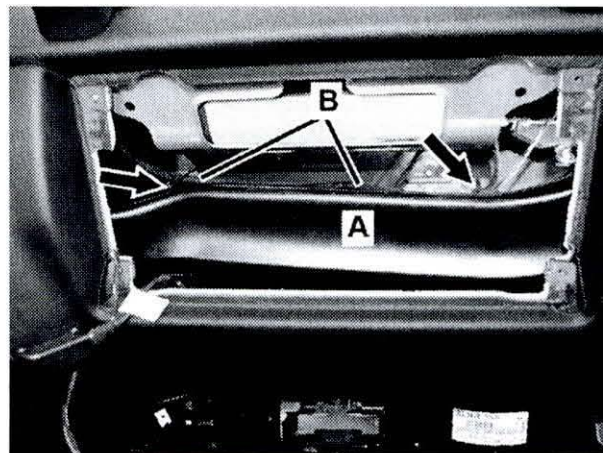

Figure 4
- Disconnect air duct (A, Figure 4) from center and right air vent (do not remove) then **carefully** cut cable ties (arrows, Figure 4) securing harness (B, Figure 4) to air duct (A) to allow additional clearance for air bag removal.